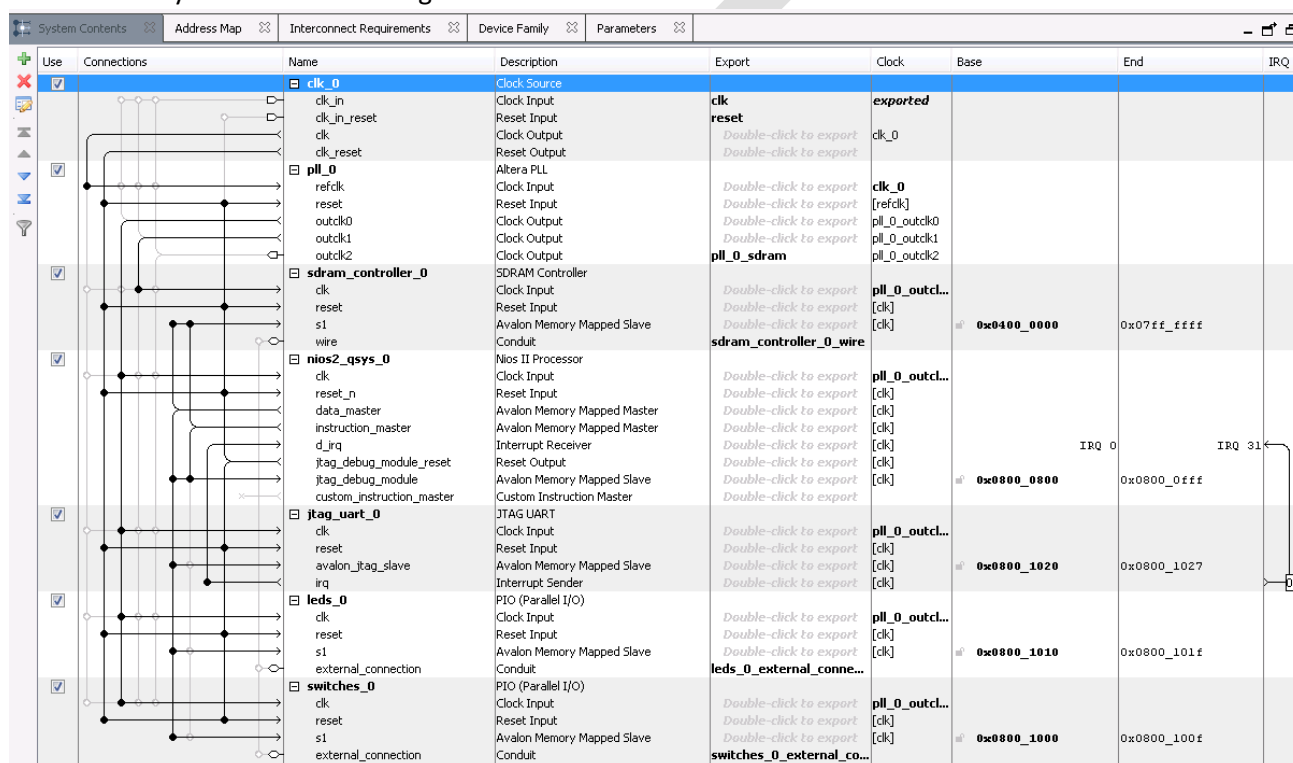

Figure 7-3. Adding LEDs and Switches to the System
14. Connect the system as shown in Figure 7-3 below: